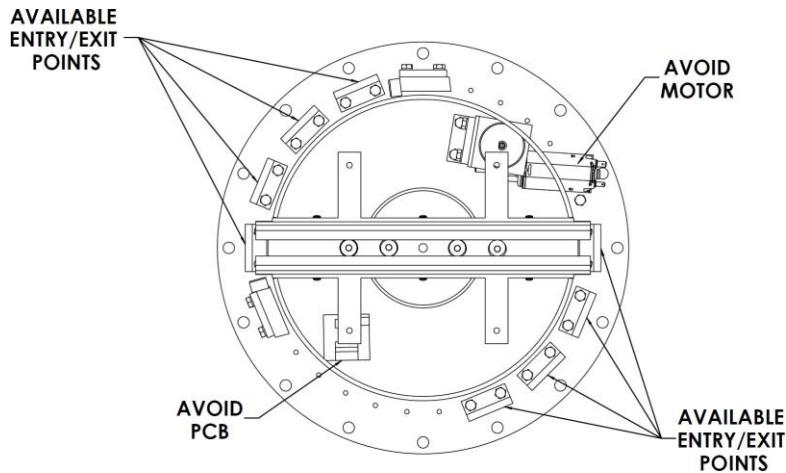

Figure 120: ***Motor Positioned to Not Interfere with Entry or Exit Points***
- Position the turntable so its motor and PCB do not interfere with any of the entry or exit points (Figure 120).